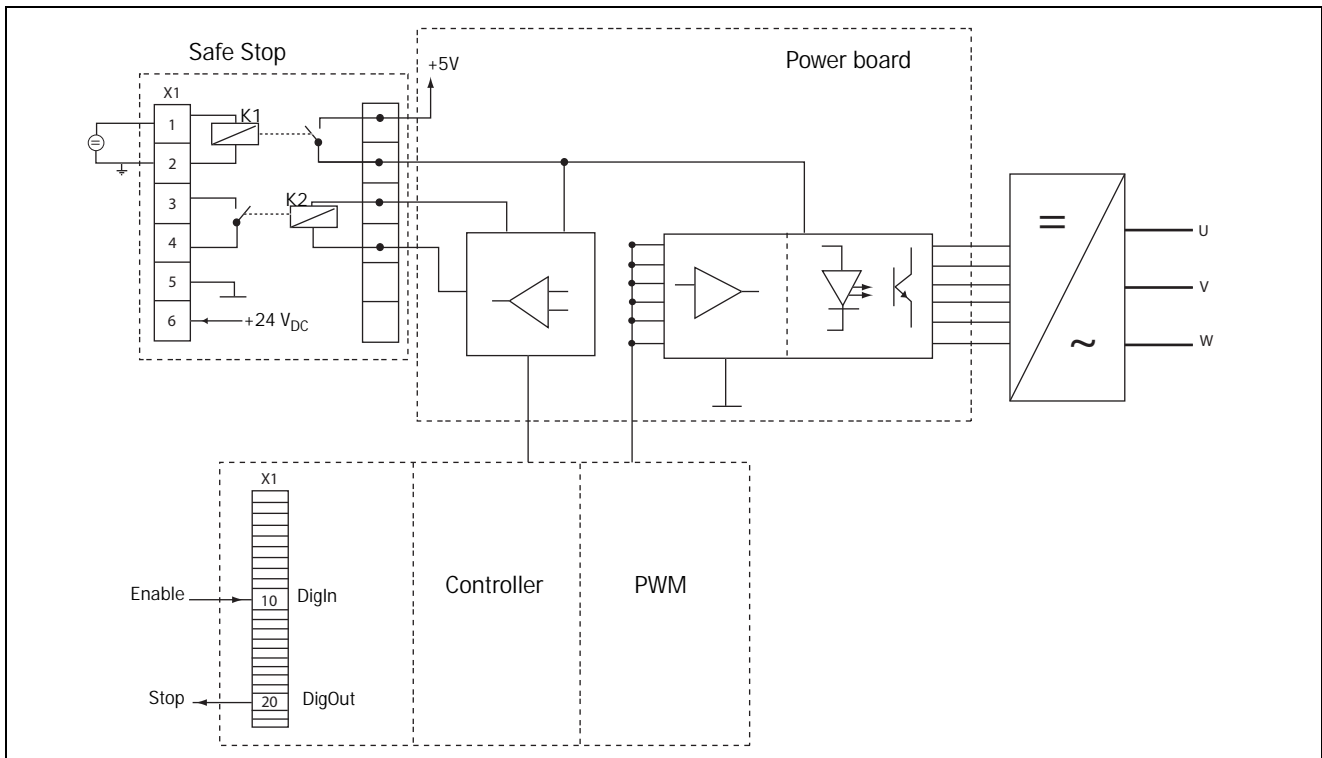

Fig. 105
connecting 24 VDC to secure the supply voltage for the driver circuits of the power conductors via safety relay K1. See also Fig. 105.
- High signal on the digital input, e.g. terminal 9 in Fig. 105, which is set to "Enable". For setting the digital input please refer to section 11.5.2, page 126.
To monitor the "Enable" function, the selection "RUN" on a digital output can be used. For setting a digital output, e.g. terminal 20 in the example Fig. 105, please refer to section 11.5.4, page 132 [540].